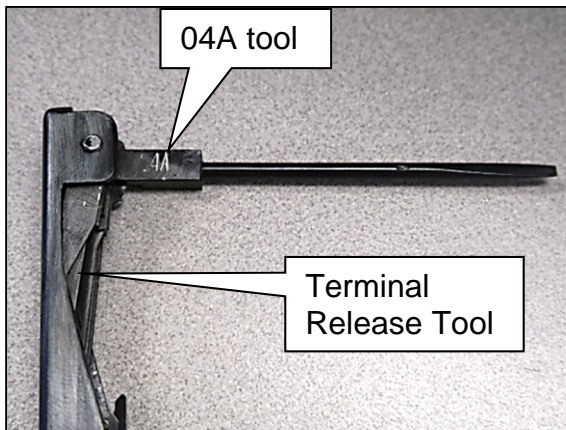

Figure 19
20. Using the 04A tool of the Terminal Release Tool, special tool NI-48817-1 (Figure 19), remove the Terminal Position Assurance (TPA) from the B42 wire harness connector.